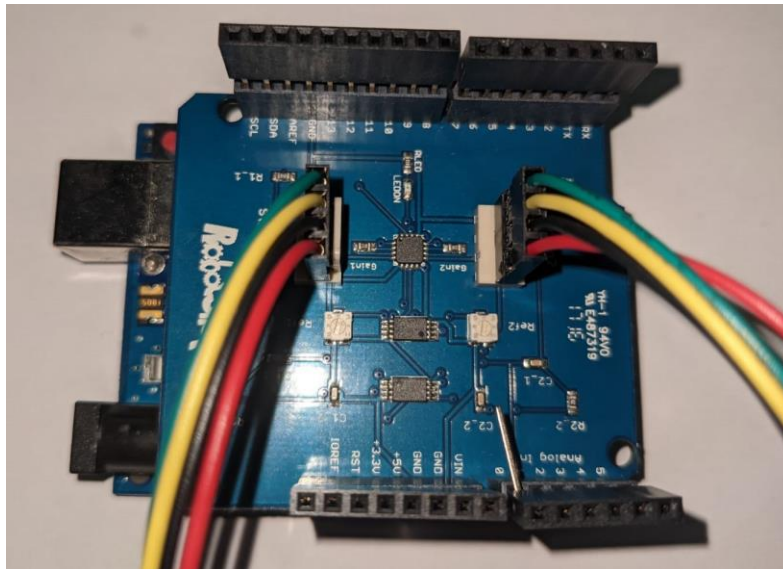

Figure 8 – Placement of stackable headers.
Step 2: Place stackable headers on top of the Wheatstone Amplifier Shield (these are required to allow clearance for the pressure transducer connections). Bend the A0 pin on the stackable header so that it does not connect to the Arduino Uno board (see Figure 8).